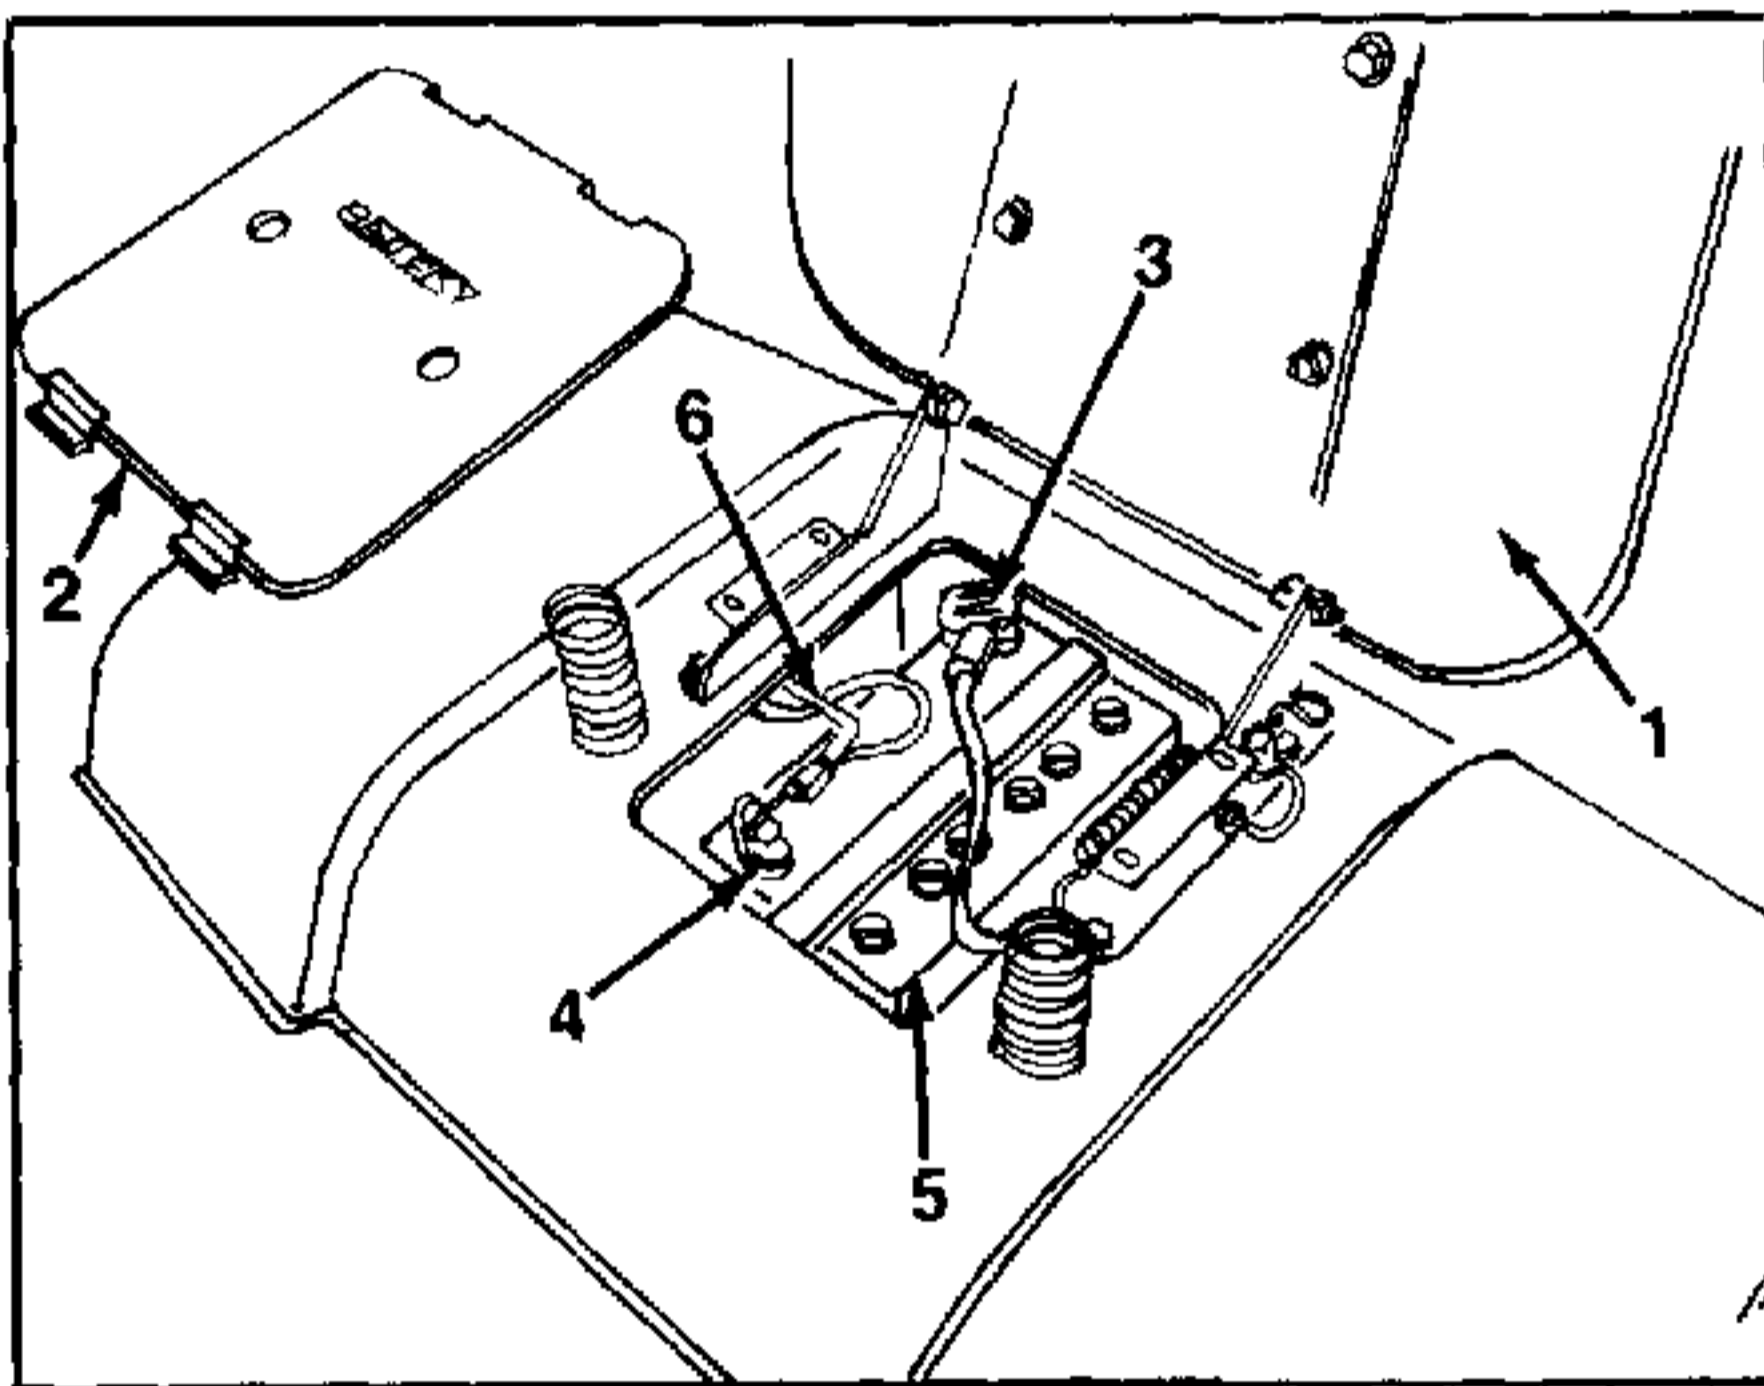

FIGURE 12.
3. Disconnect the battery cable's **negative cable first**, from battery post. See figure 12.